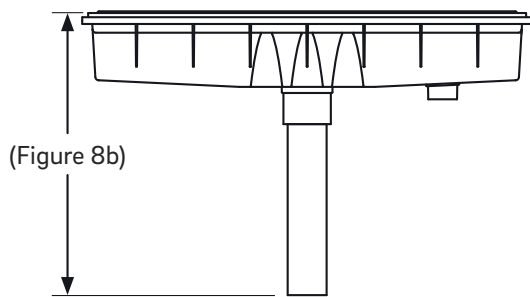

Figure 9
8. From the top edge of the AVSC drain, measure the length of the total height of the drain and riser (Figure 8b) and cut any off any extra length from the riser pipe (Figure 9).